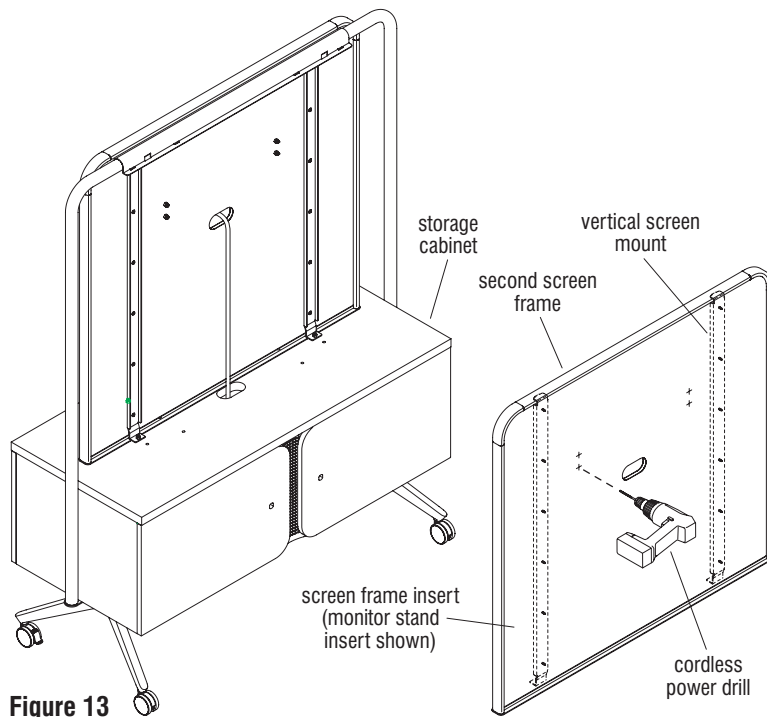

Figure 13
2. If the first screen frame installed contained a monitor stand insert and the second monitor screen insert will have a monitor secured to it at the same height as the first, measure and transfer the same hole pattern created on the first monitor stand insert to the second monitor screen insert. If the second monitor is different, or will not be installed at the same height as the first, use the monitor mount bracket as a template, use a spirit level and/or tape measure to assure the bracket is level, straight, and centered, then mark the mounting hole locations and move the bracket away. Carefully bore mounting holes at the center of each marked location (Figure 13).